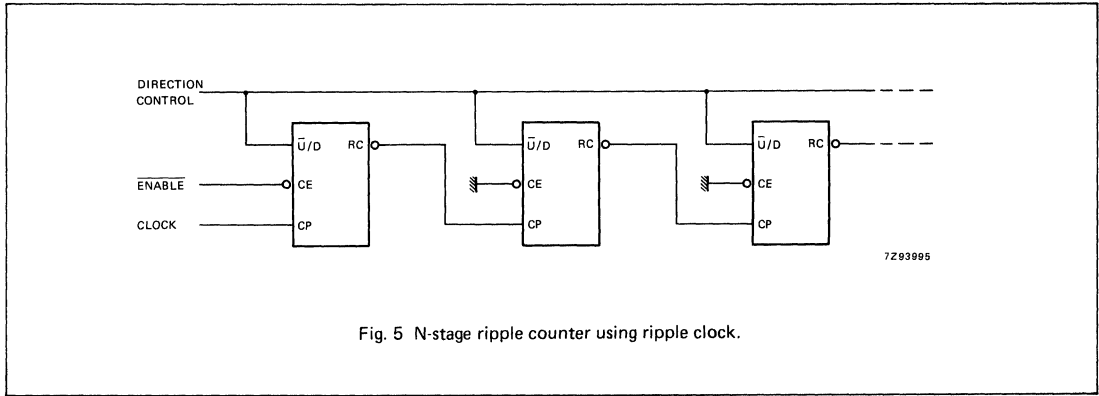
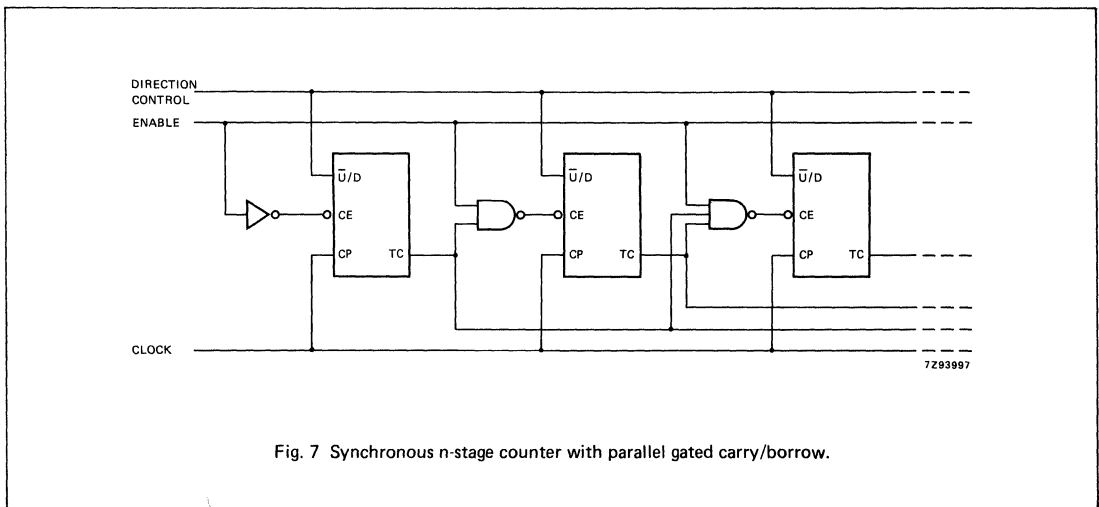

Fig. 5 N-stage ripple counter using ripple clock.
Fig. 7 Synchronous n-stage counter with parallel gated carry/borrow.
Overflow/underflow indications are provided by two types of outputs, the terminal count (TC) and ripple clock (RC). The TC output is normally LOW and goes HIGH when a circuit reaches zero in the count-down mode or reaches "15" in the count-up-mode. The TC output will remain HIGH until a state change occurs, either by counting or presetting, or until U/D is changed. Do not use the TC output as a clock signal because it is subject to decoding spikes. The TC signal is used internally to enable the RC output. When TC is HIGH and CE is LOW, the RC output follows the clock pulse (CP). This feature simplifies the design of multistage counters as shown in Figs 5 and 6.
In Fig. 5, each RC output is used as the clock input to the next higher stage. It is only necessary to inhibit the first stage to prevent counting in all stages, since a HIGH on CE inhibits the RC output pulse as indicated in the function table. The timing skew between state changes in the first and last stages is represented by the cumulative delay of the clock as it ripples through the preceding stages. This can be a disadvantage of this configuration in some applications.
In Fig. 7, the configuration shown avoids ripple delays and their associated restrictions. Combining the TC signals from all the preceding stages forms the CE input for a given stage. An enable must be included in each carry gate in order to inhibit counting. The TC output of a given stage is not affected by its own CE signal therefore the simple inhibit scheme of Figs 5 and 6 does not apply.